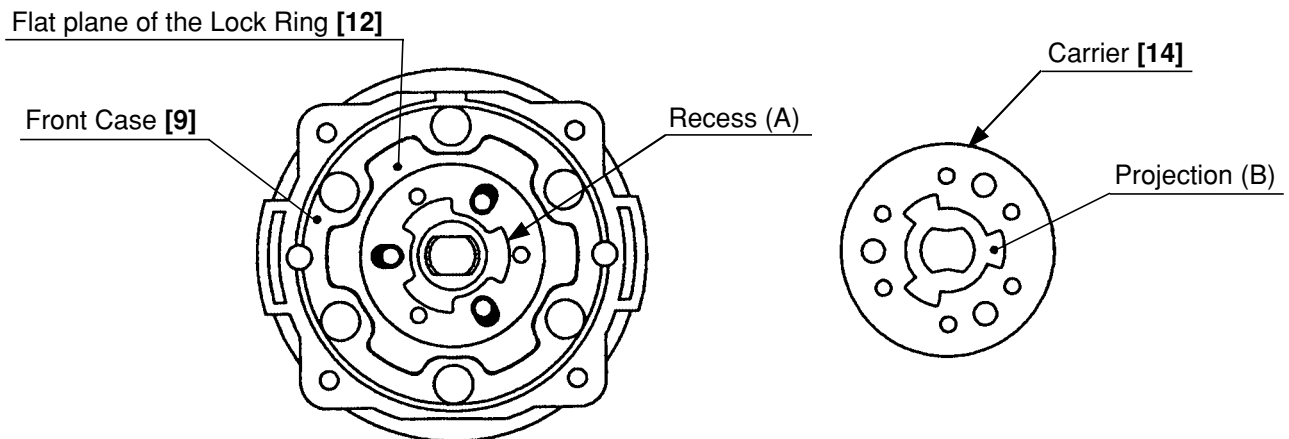

Fig. 9
Assemble so that recess (A) on the Lock Ring [12] is aligned with projection (B) on the Carrier [14]. (Be careful of the direction.) Then make sure that the flat plane of the spindle faces the flat plane of the Carrier [14]. If assembled in wrong direction, the flat plane of the spindle may be stopped at the position about 2 mm lower than the flat plane of the Carrier [14]. (See Figs. 9 and 10.)